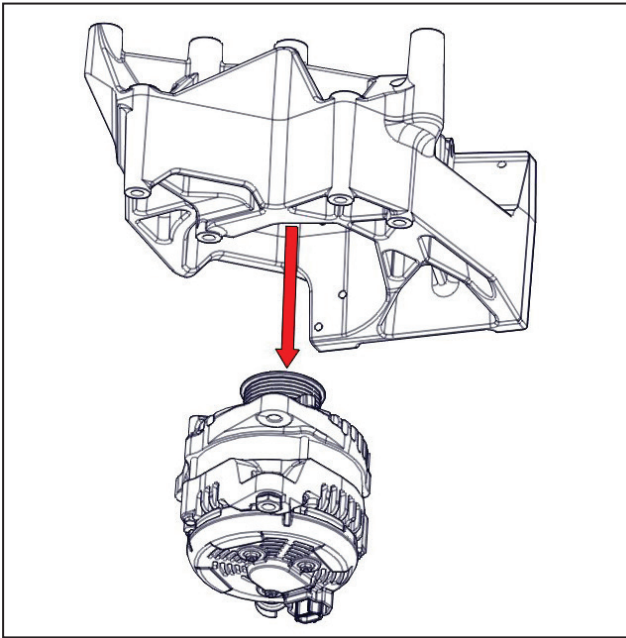

Figure 46 — Mounting the alternator
- ☐ Align the VMAC main bracket over the top of the alternator, with the mating surface facing down. Lower the bracket over the alternator (Figure 46)